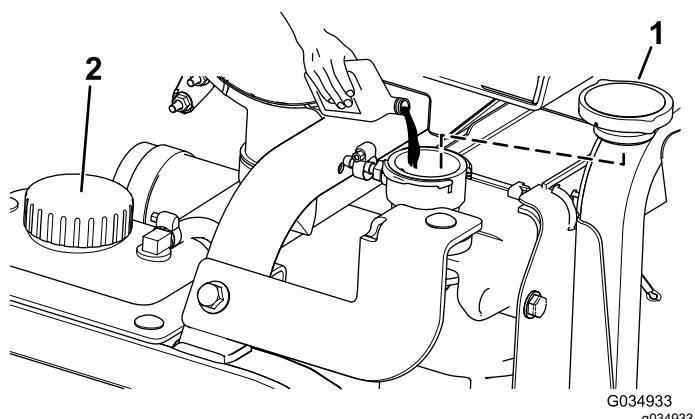

Figure 112
5. Fill the radiator with coolant until the coolant level even with the lip of the filler port (Figure 112).